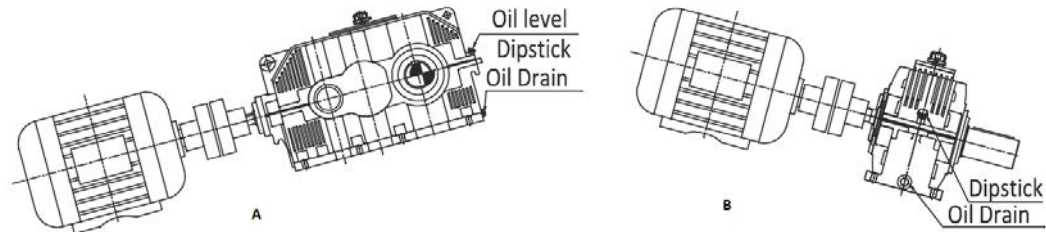

Figure 16: Installation of gearbox on housing base
The gearbox can be mounted in an inclined position, refer Figure 16: Installation of gearbox on housing base (A) and (B), only if this requirement is specified while ordering out the gearbox.